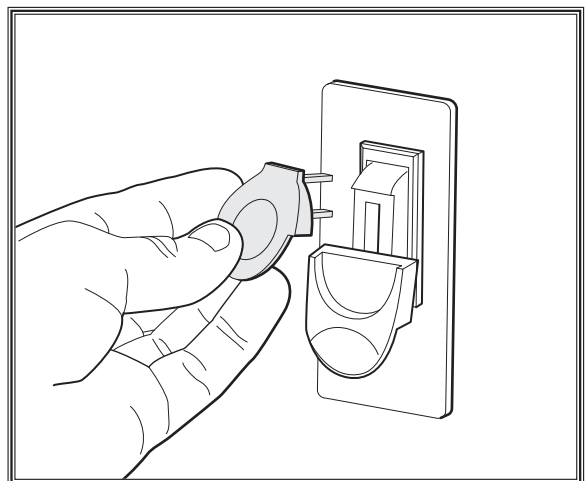

Figure 20. Removing switch key from paddle switch.
5. Remove the switch disabling key (see **Figure 20**).